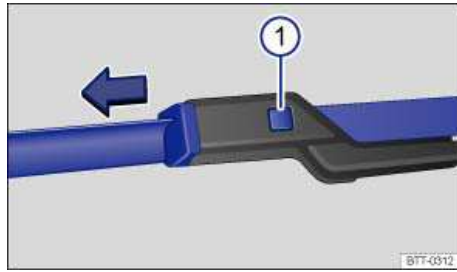

Fig. 160 Changing the windshield wiper blades.
- Press and hold the release button ⇒ fig. 160 \(1\).